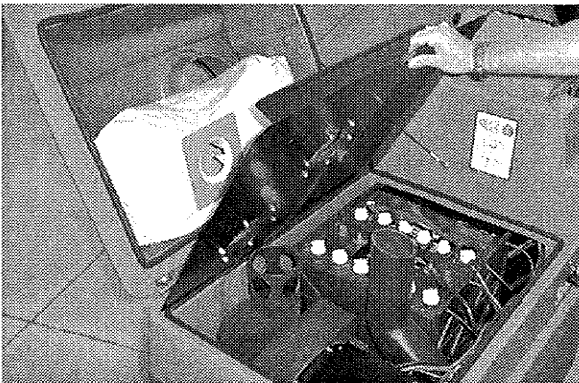

FIG. 26
3. Unlatch and open battery compartment hood, remove filters and lift off metal seal plate (Figure 26).